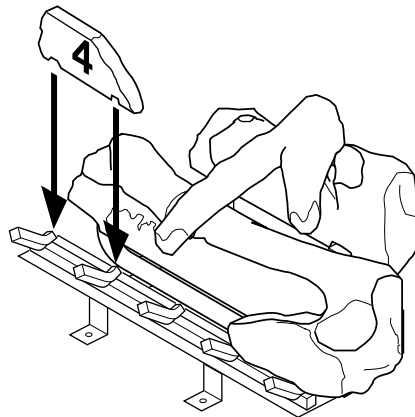

Figure 48 - Installing Log No. 4
4. Place log #4 (small log) onto the front left part of the grate making sure the notches fits over the prong of the grate. See Figure 48.